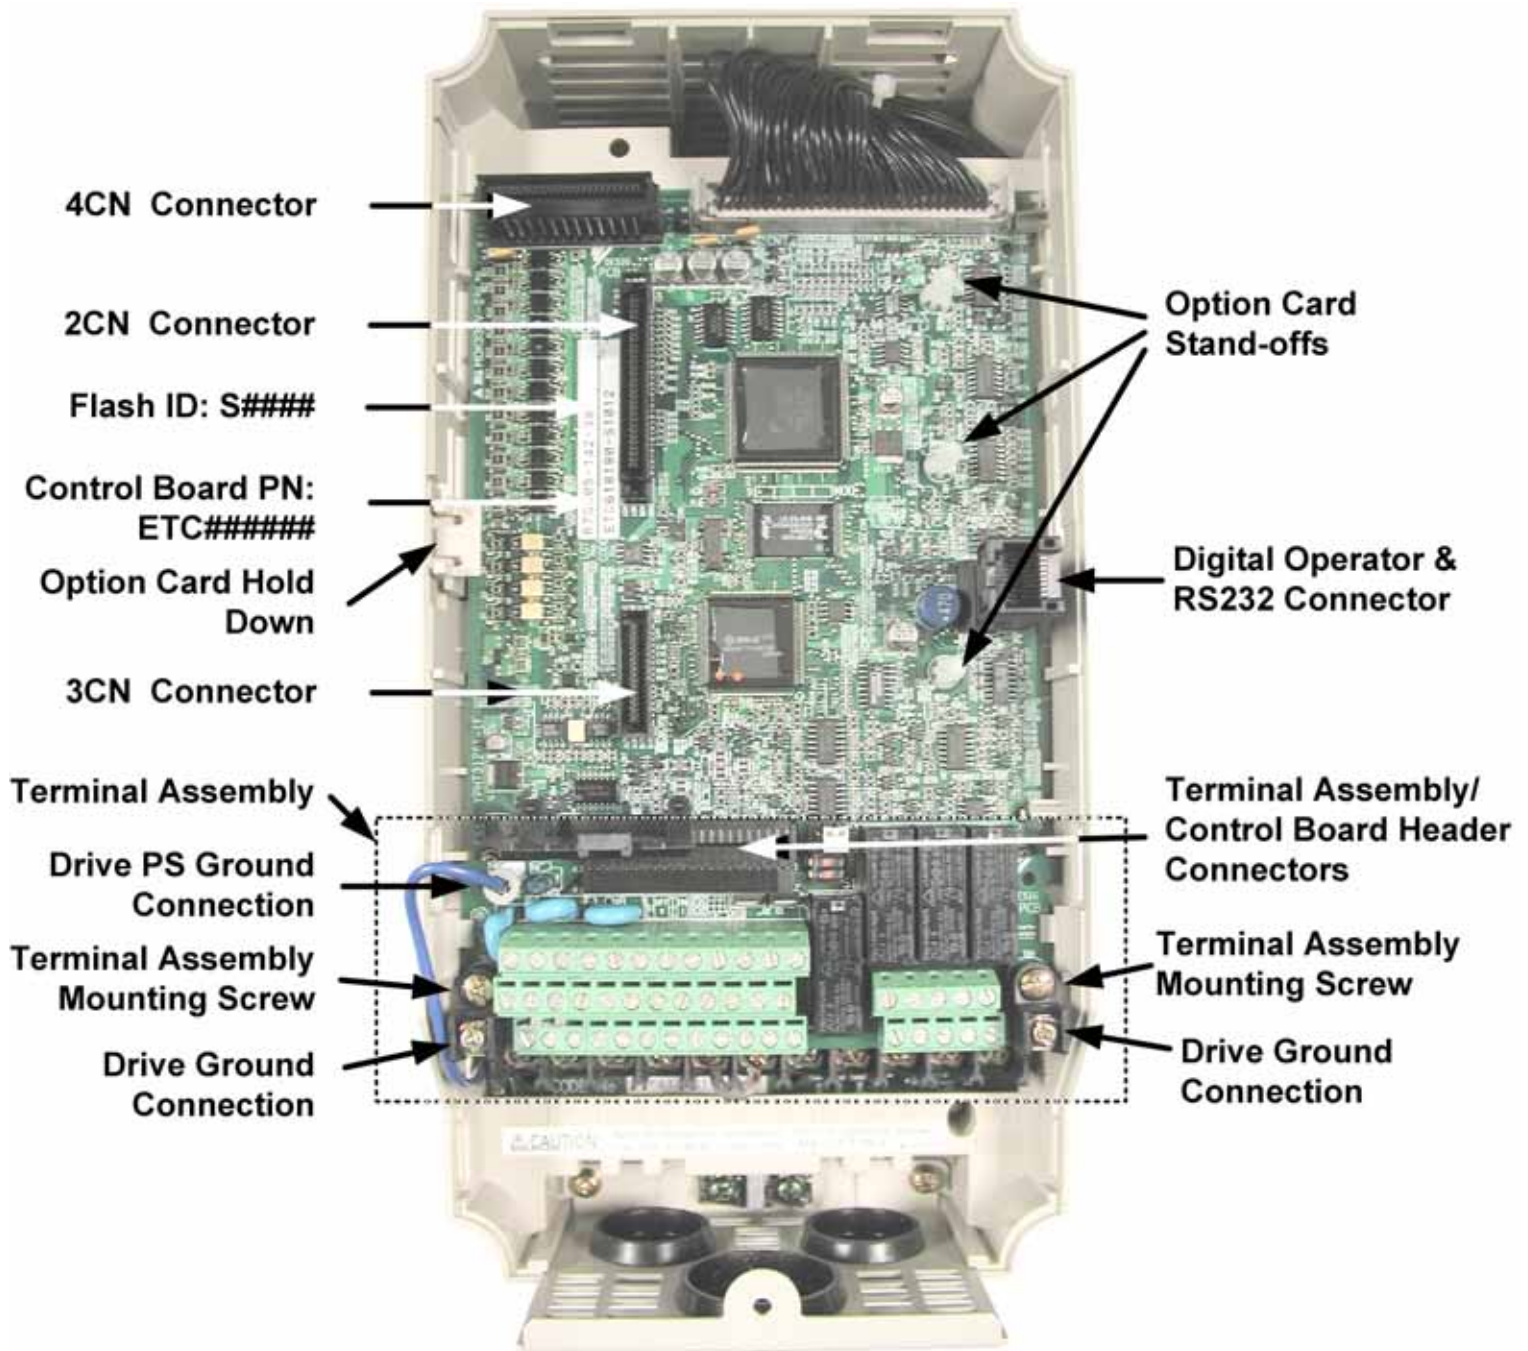
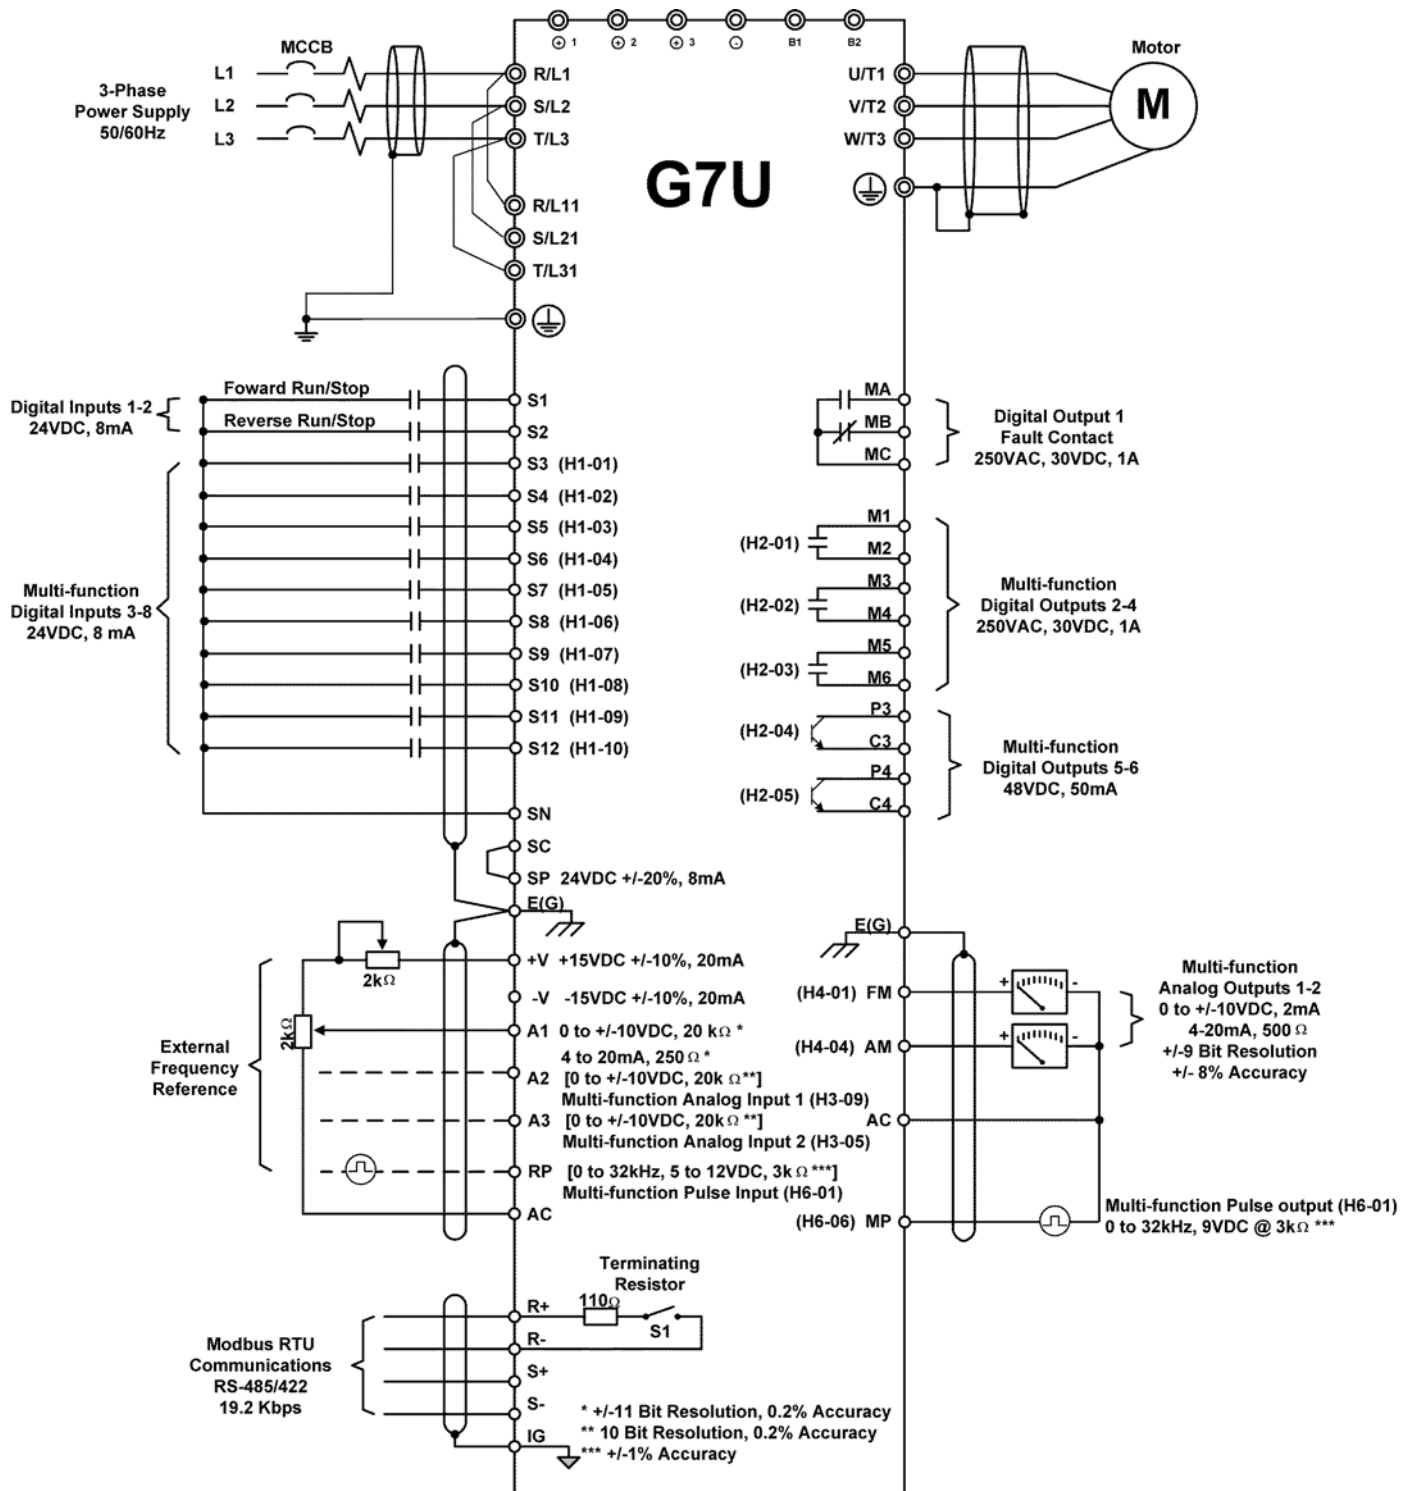

Figure 1.1 G7 Connection Diagram
Figure 1.2 G7 Drive Connections
- ☐ 4.2: Connect the RJ-45 port on the front of the G7 drive to the controller serial port. Refer to *Figure 1.1 - G7 Diagram* for the location of drive connectors. Use a DB9 to RJ-45 adapter with a standard Ethernet CAT-5 patch cable or use Yaskawa cable UWR00468-2. **Do NOT connect this cable to an Ethernet port** on the controller, as damage to the controller and/or G7 drive may result. Refer to *Figure 1.2 – RS-232 Connections* for a description of the interface cable.